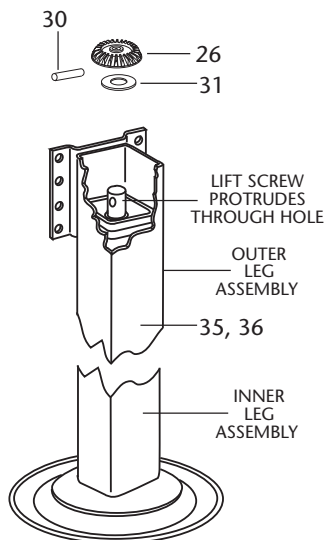

Figure 9
4. Place the outer leg assembly (*Item 35 or 36*) over the inner leg assembly (*Item 27, 28, or 29*) and press down until the end of the lift screw protrudes through the hole in the top of the outer leg assembly as shown in *Figure 9*.
6. Slide the bevel gear (*Item 26*) over the lift screw and position it on the pin as shown in *Figure 9*. When properly engaged, the top of the bevel gear will be approximately flush with the top of the lift screw.